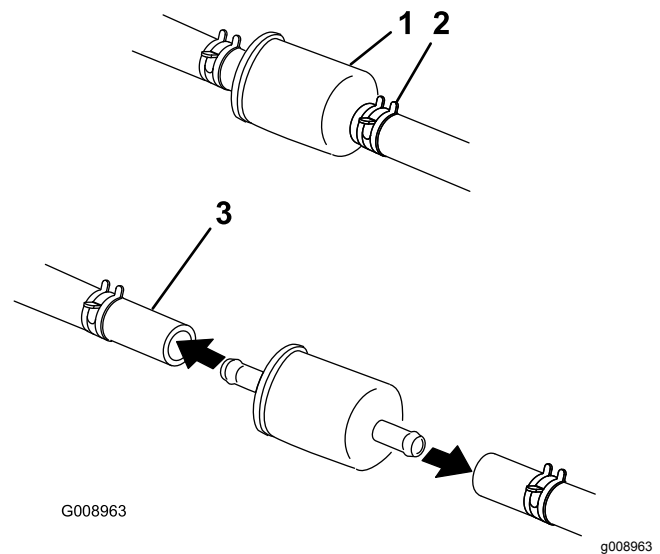

Figure 54
4. Close the fuel-shutoff valve under the seat (Figure 54).
5. Squeeze the ends of the hose clamps together and slide them away from the filter (Figure 54).
7. Install a new filter and move the hose clamps close to the filter (Figure 54).